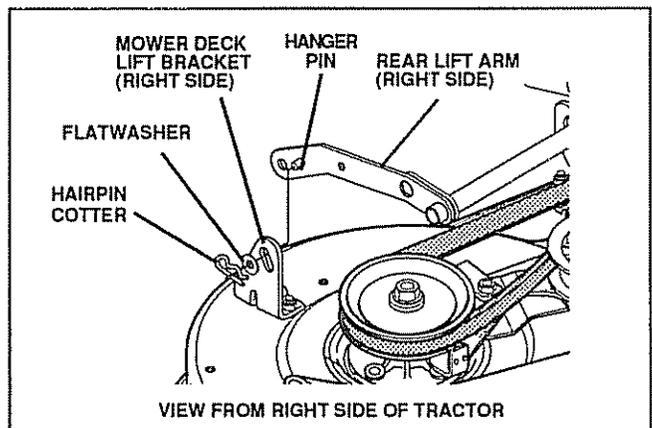

FIG. 22
- Remove hairpin cotter and Flatwasher from hanger pin of right rear lift arm and slide off right mower deck lift bracket (see Fig. 22).
- Remove hairpin cotter and Flatwasher from hanger pin of left rear lift arm and slide off left mower deck lift bracket (see Fig. 22).
- Underneath the footrests of the tractor, remove hairpin cotter and flatwashers from left and right hand hanger pins and lay aside (see Fig. 22).
- Place cutting height adjustment pedal in lowest position by moving memory rod to position 1 and pressing pedal latch to release cutting height adjustment pedal. **NOTE:** Be sure left and right lift arms are to the inside of left and right deck lift brackets (see Fig. 22).
- Lift deck slightly and flex right rear hanger pin inward to snap hanger pin into right deck lift bracket slot. Secure hanger pin in place with Flatwasher and hairpin cotter removed earlier (see Fig. 22).